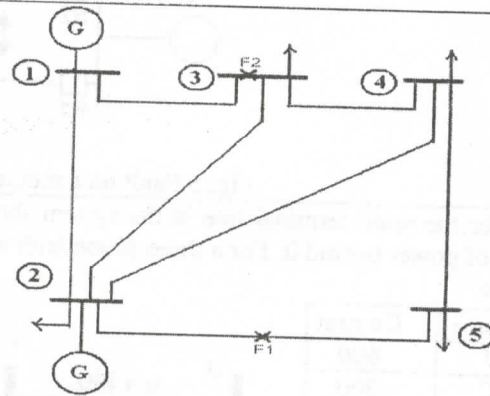

Fig. 2
- e) Specify the protective zones for the system shown in Fig. 2. Determine the following: